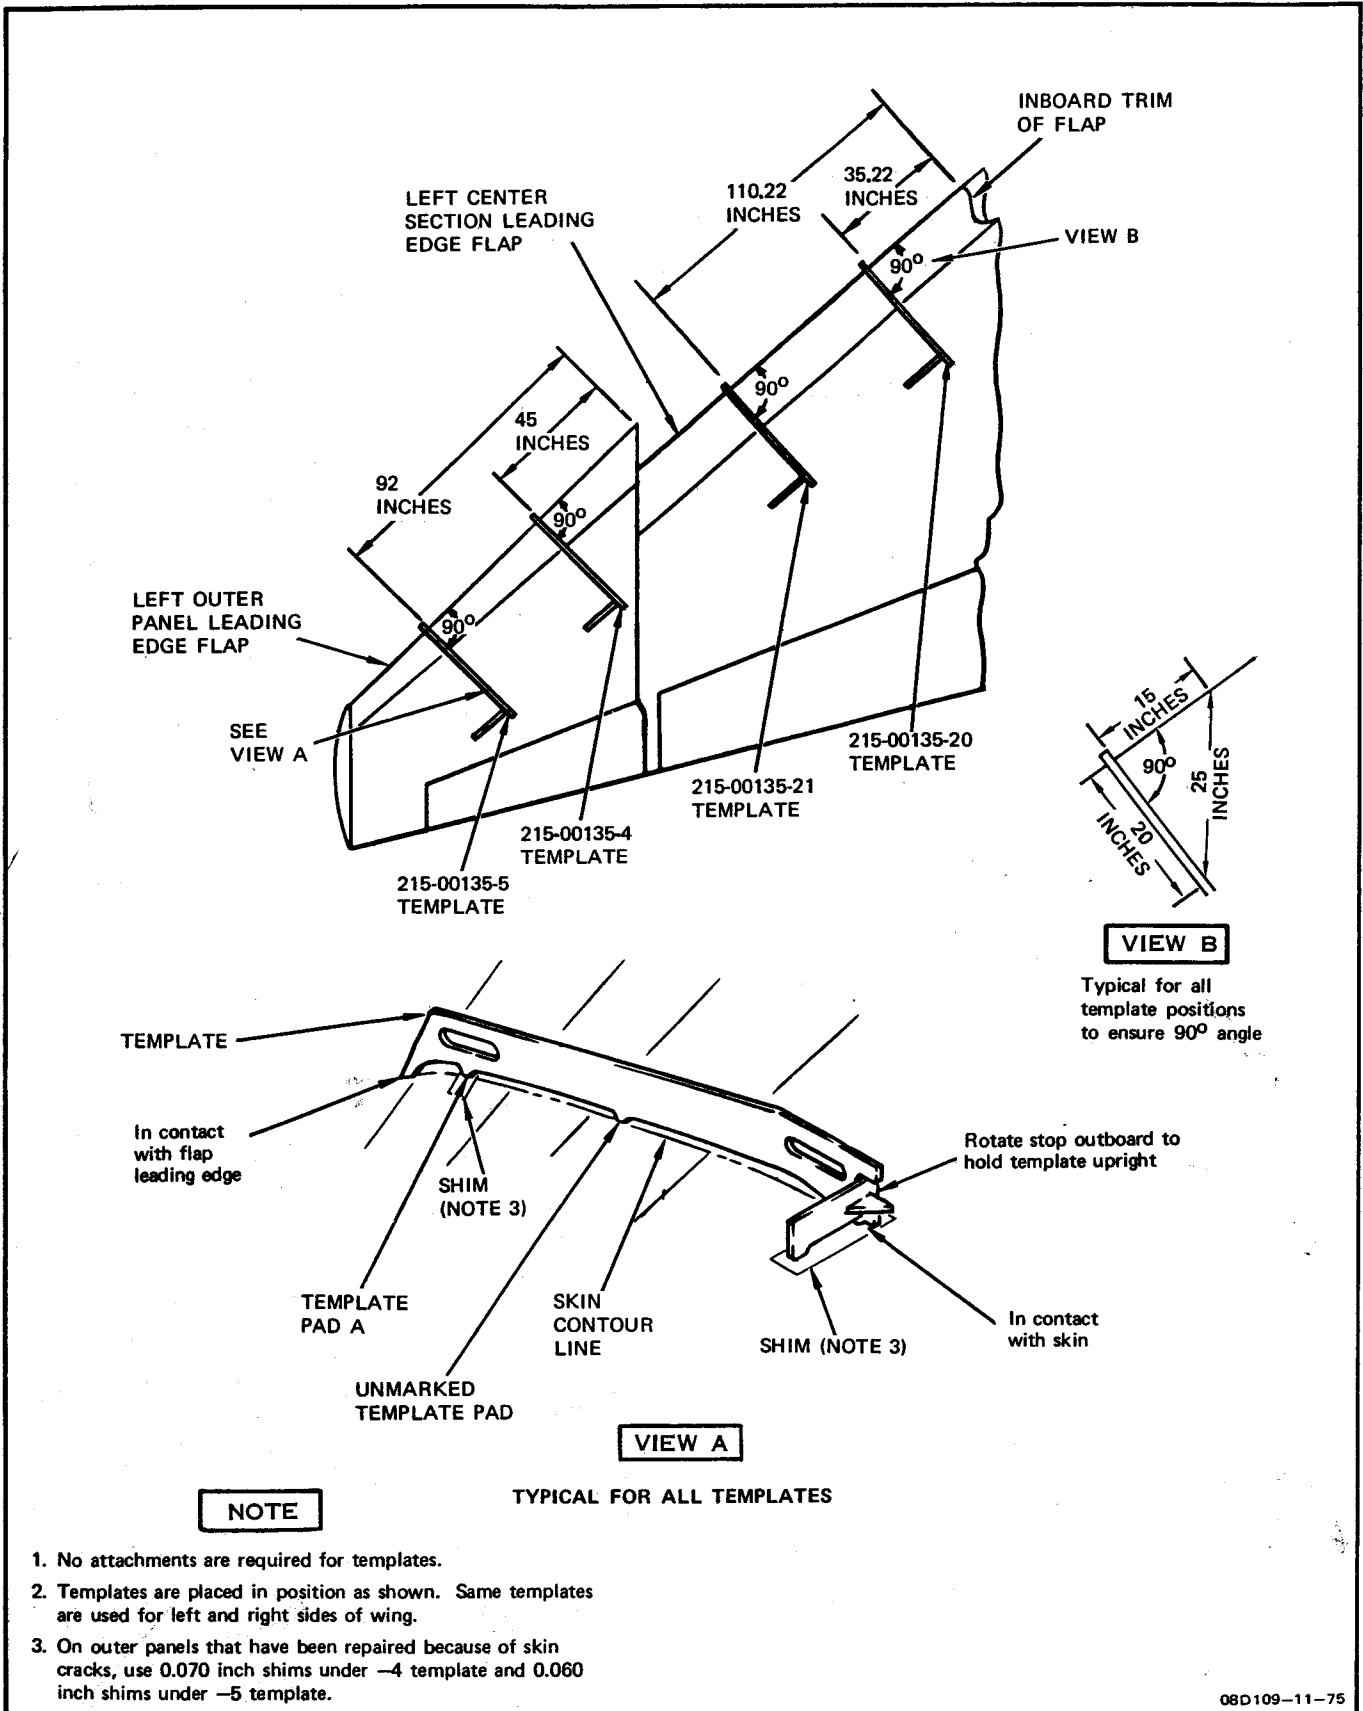

Figure 9-16. Leading Edge Flap Template Installation
c. With flap retracted, place center section leading edge flap templates into position (figure 9-16).
c. With flap retracted, place outer panel leading edge flap templates into position (figure 9-16).